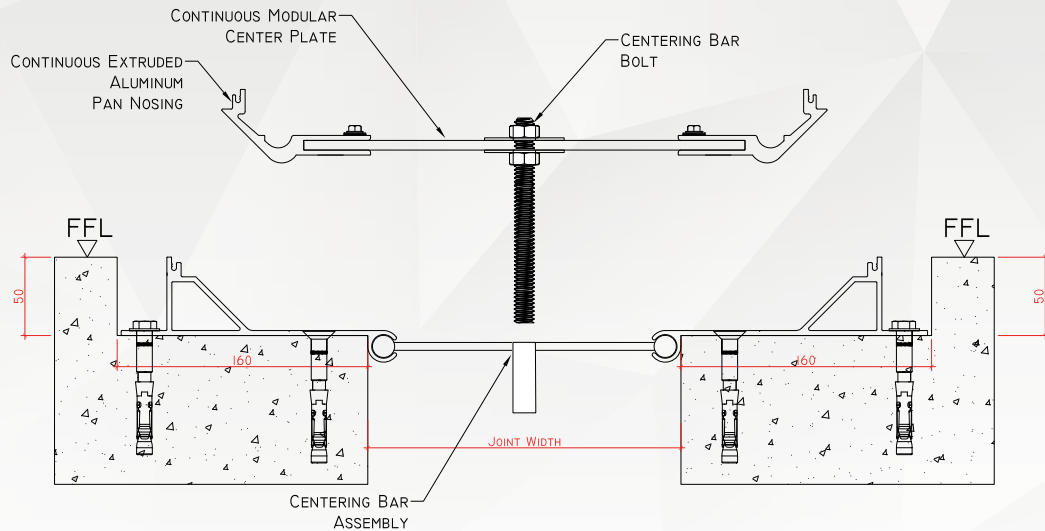
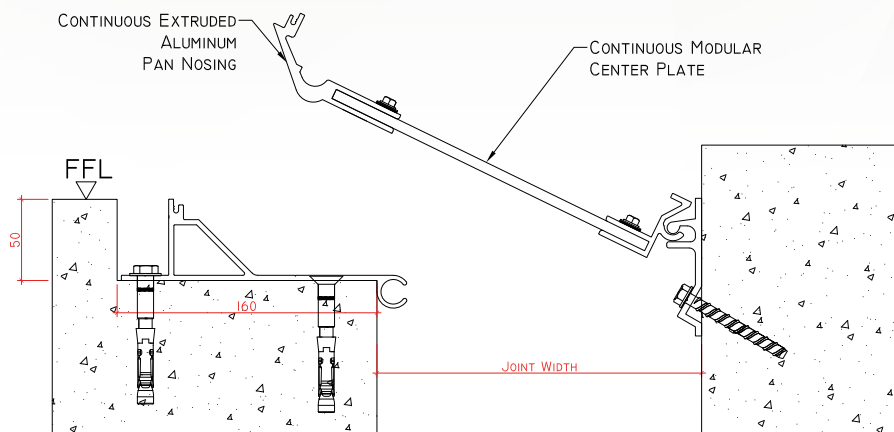

Figure 5.
Figure 6.
- Repeat Step 12 and Step 13 until all the centering bars are attached to the section of pan being installed (see Figure 5). See Figure 6 for wall to corner condition.